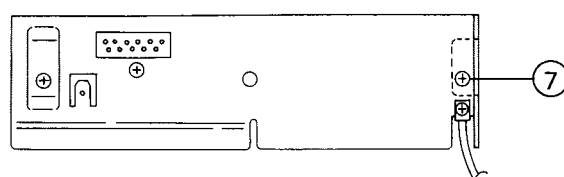

Fig. 4-7
5. After turning over the body upside down, remove the one screw (7) retaining the right side bracket from the right side of the back surface (See Fig. 4-7).